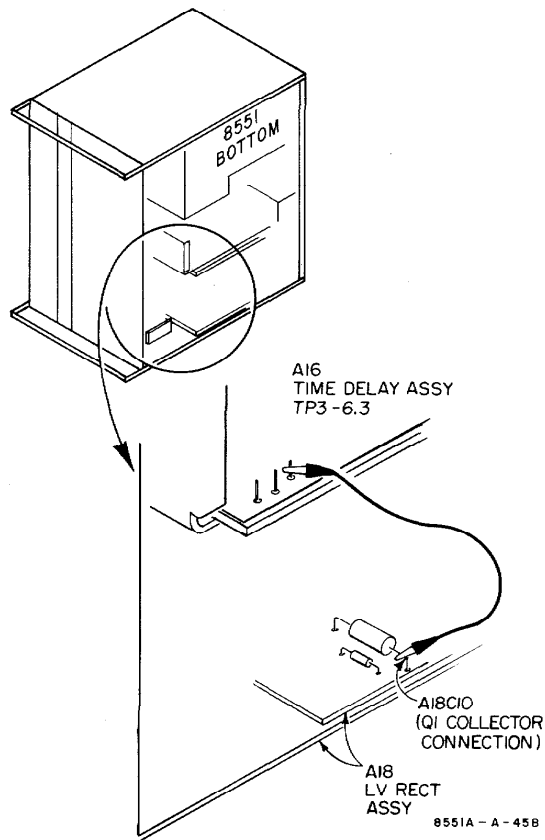

Figure 5-23. Shorting out LV Series Regulator Q1 for 8551 Relay K3 Check
- (1) Short out -6.3V Series Regulator Q1 by attaching a clip lead from the positive terminal of A18C10 on Assy A18 to -6.3 (TP3) on HV TD Assy A16; see Figure 5-23.
- (2) Set variable transformer for 103.5 V and 8551 LINE to ON.